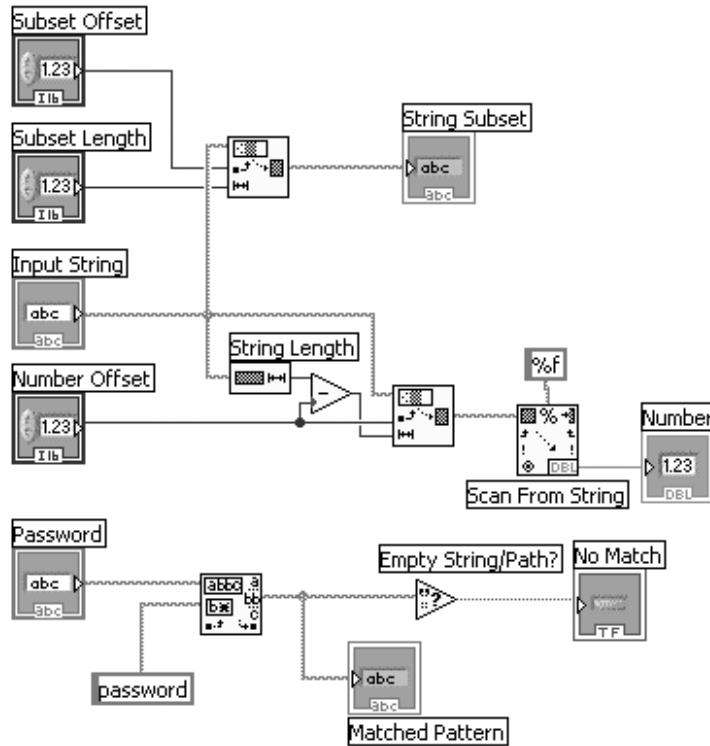

Figure 9.28
- 3. Create the block diagram in Figure 9.28.